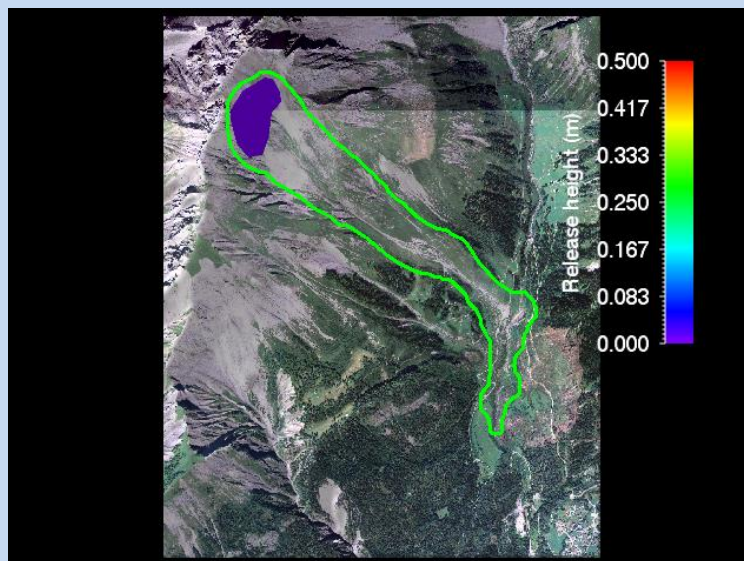

Figure 3.41: Input file with optimized calculation domain (envelope shapefile)
- Use *Input* → *Calculation Domain...* → *Load Existing Domain* to load your envelope shapefile as a new calculation domain, see Figure 3.41 below.